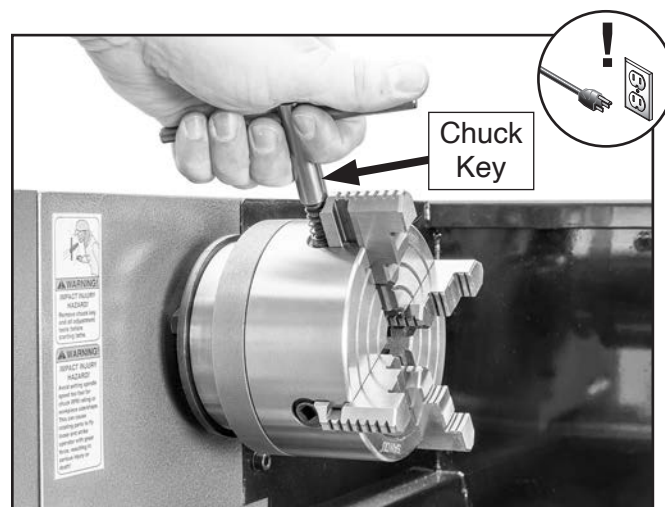

Figure 42. Backing jaw out of chuck.
3. Insert chuck key into a jaw screw and turn it counterclockwise to back jaw completely out of chuck (see **Figure 42**).